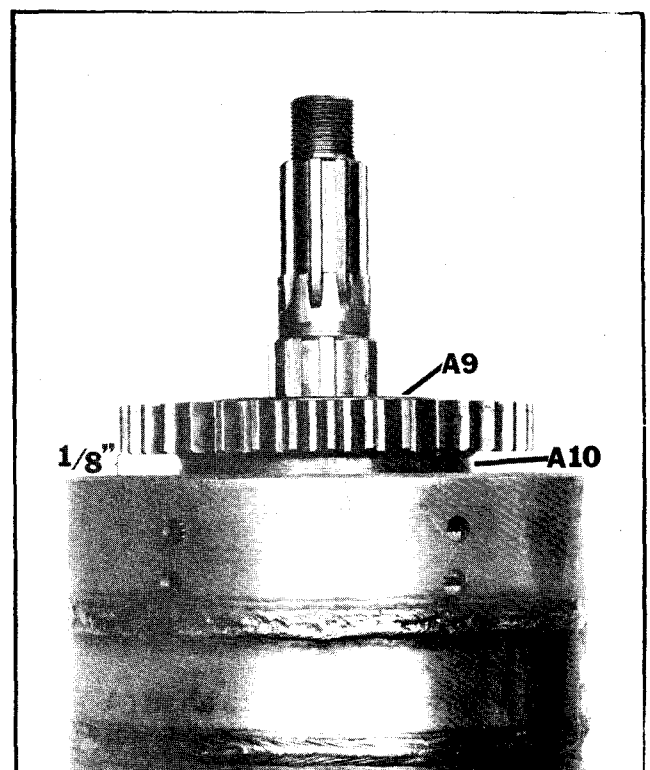

Figure 40
6. Insert and tap clutch gear (A-9) until properly seated on bearing (A-10) (Figure 40).
7. If assembled properly the space between clutch pack (A-12) and clutch gear (A-9) will be $\frac{1}{8}$ inch (Figure 40).